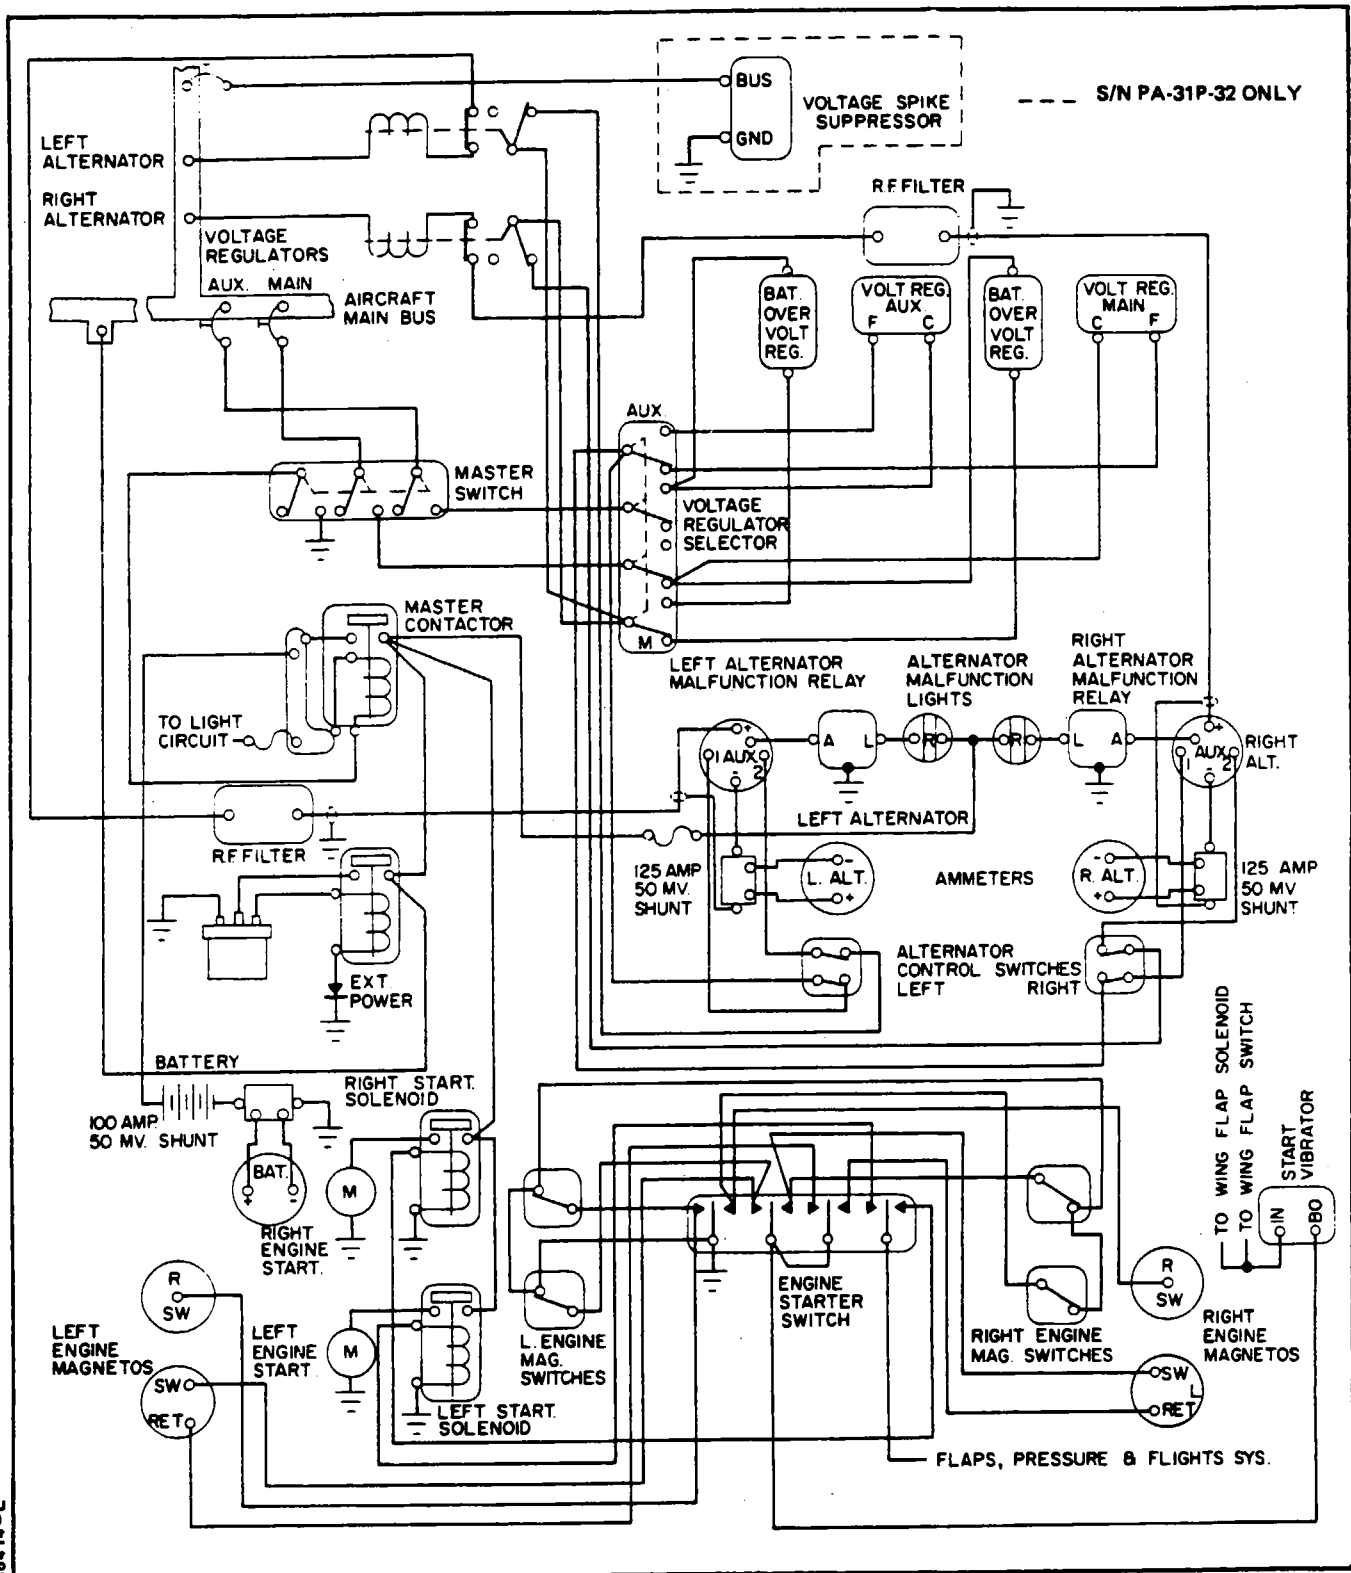

Figure 11-2. Alternators and External Power Diagram
11-9. CHECKING ALTERNATOR SYSTEM. Three ammeters are installed which enable an independent output check of each alternator, as well as the electrical output-input of the battery. Should either alternator show no output on its ammeter, check the appropriate circuit breaker. If a further check of the ammeter shows no output from either alternators, switch to the auxiliary voltage regulator and overvoltage relay. If switching to the auxiliary system indicates no electrical output, further check the alternator system. (Refer to Figure 11-2.)
g. Should there be no indication of voltage, trace back through the output circuit until voltage is indicated. (Refer to Figure 11-2.) A component that allows no voltage to pass through it should be replaced.